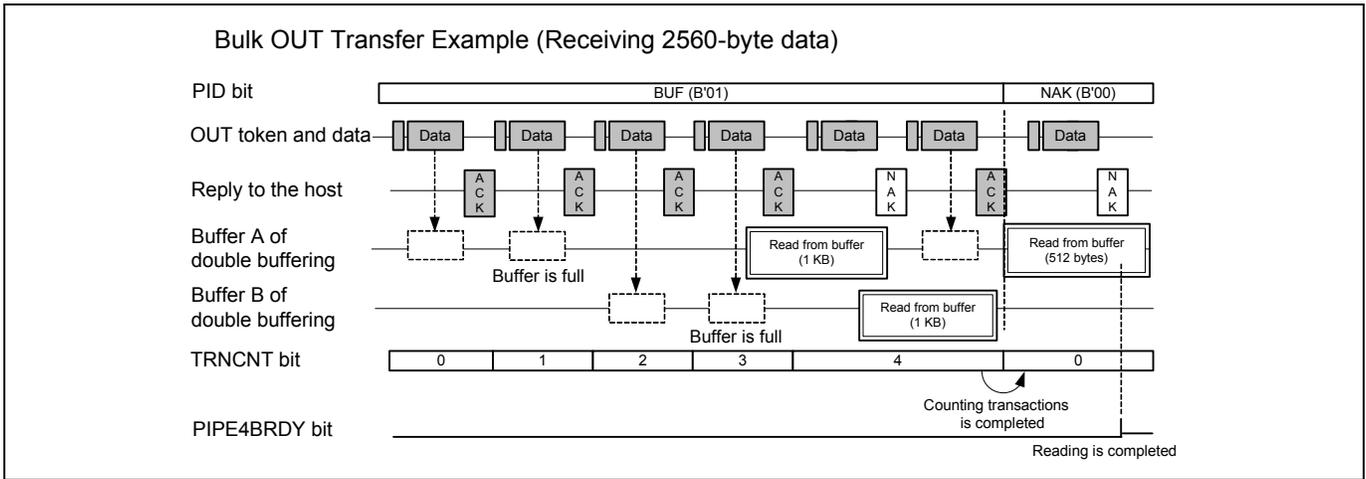

Figure 12 Bulk OUT Transfer Example
Table 2 lists the setting example of the bulk OUT transfer using pipe 4. Figure 12 shows the operation example using the setting listed in Table 2. Double buffering, continuous transfer mode, and the transaction counter are enabled in this example. The BRDY interrupt is generated when reading data is completed to use the DMA transfer adequately. For details, refer to (1) to (8) described in following pages.